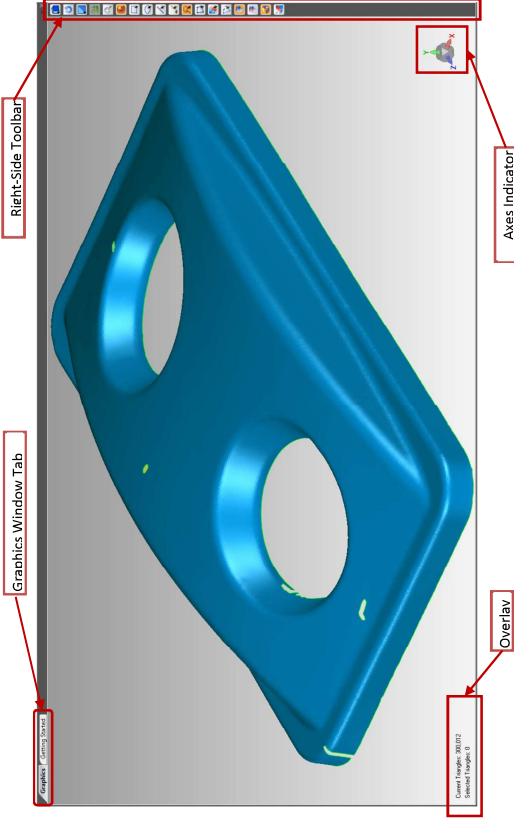

Figure 2
- Click **Open**. The file is loaded and displayed in the **Graphics Window**, see **Figure 2**.